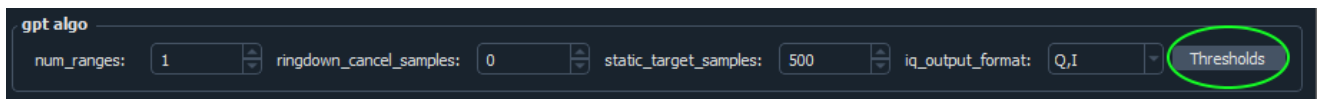

Figure 3. ICU-x0201 GPT Configuration Utility gpt algo Panel
5. In the **gpt algo** panel (see Figure 3. ICU-x0201 GPT Configuration Utility gpt algo Panel), set the number of ranges (targets) and the ringdown and static target filter sample counts. (In the Hello Chirp application, the `iq_output_format` setting will be overwritten based on whether amplitude or I/Q data output is configured in `app_config.h`. So, it can be left as the default Q,I.) Click on the **Thresholds** button to open and modify the target detection thresholds.